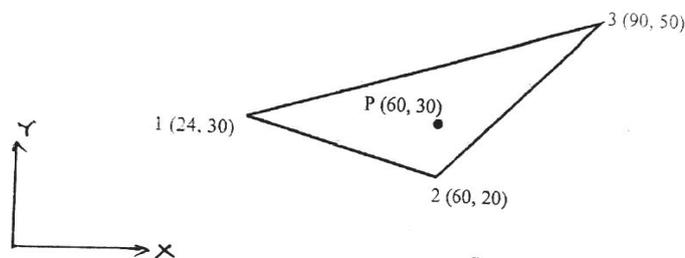

fig. 2a
- Q2) a)** The stresses at node points 1,2 and 3 are 90,120 and 160 MPA respectively. Determine the stress at point P for the coordinates as shown in fig. 2a. [15]